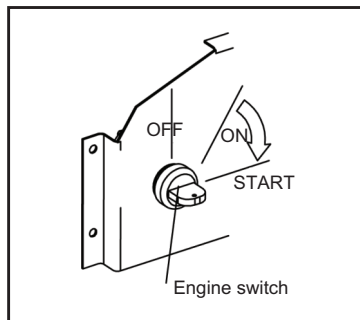

Fig.9 Starter motor scheme
4.4 Turn the engine switch to the START until the engine has started, see Fig.9.